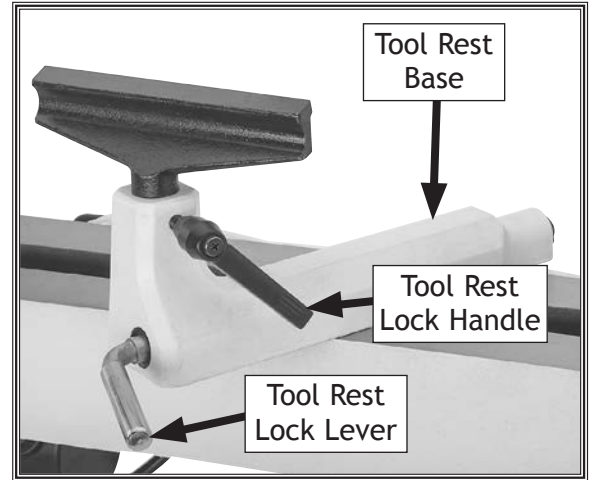

Figure 19. Tool rest controls.
1. Loosen tool rest lock lever and slide tool rest base along bed (see **Figure 19**).